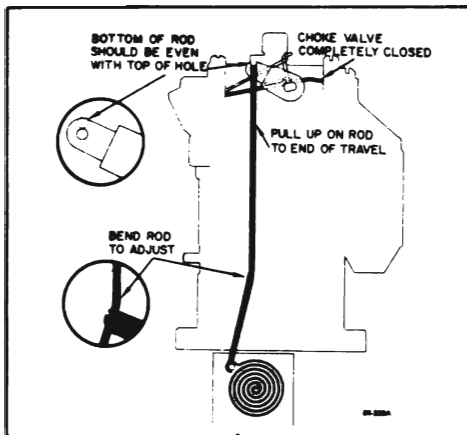

Figure 64-66 Choke Coil Rod Adjustment
5. Bend choke coil rod at point shown to adjust. See Figure 64-66.